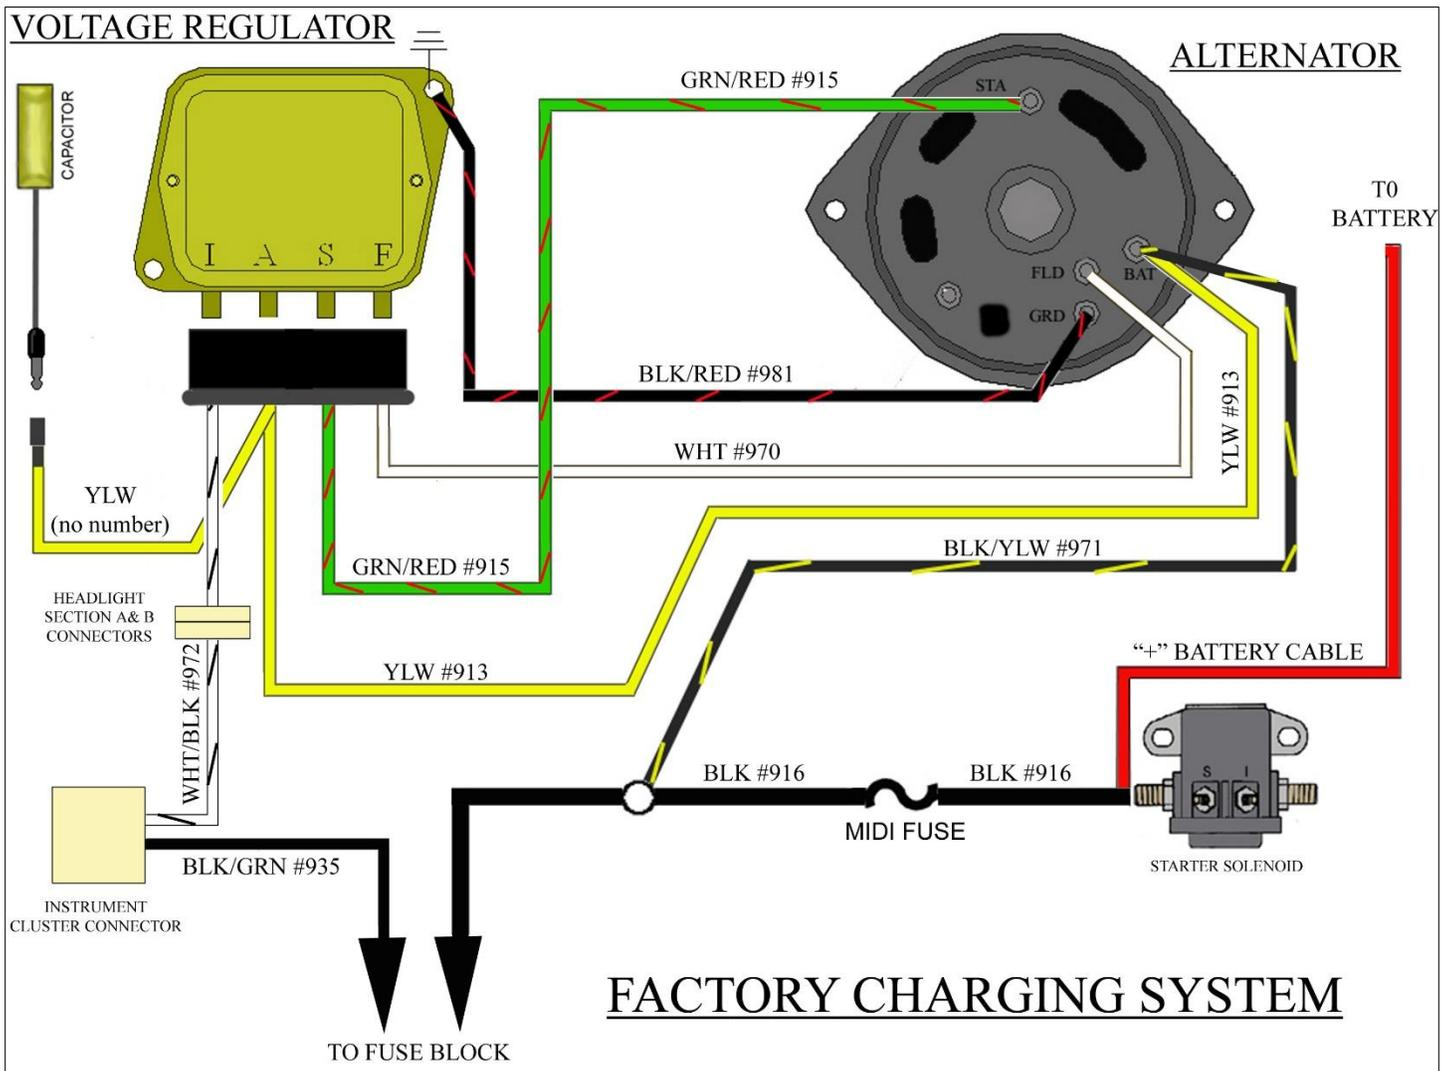

Figure 9 Ford Alternator
With the alternator wires of Headlight Section B routed over to the Alternator, connect them as described below and as shown in **Figure 9**.
Note: Your Alternator may not appear exactly as represented in **Figure 9**. The circuits are wired the same way, though.
- Connect the other #916 "...to the Fuse Block" wire to the other side of the MIDI Fuse. The red wire will only be used by those using an Ammeter. It will double with the #916 Fuse block wire, see **Figure 9**.